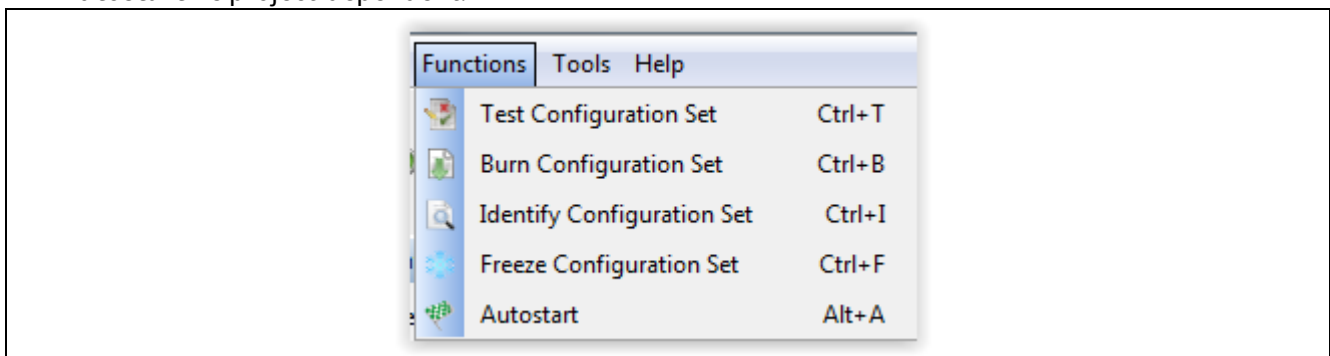

Figure 26 .dp Vision Functions Menu
- The Functions menu (see Figure 26) provides control to the user to push parameters into the .dp device. There are two mechanisms that are important. Firstly, to test any parameter that has been edited by the user, the “**Test Configuration Set**” option can be selected in order that parameters are written into RAM and checks can be made by the user by making board measurements. This is not permanent, but provides the user with a useful capability when developing parameters for their power topology. The second mechanism is provided by “**Burn Configuration Set**”, which permanently burns the parameters into OTP memory. Also within the Functions menu, there is the “**Identify Configuration Set**” option that allows the user to see if the loaded list of configuration parameters is the same as the list of parameters that are burned to the OTP memory of the chip (an appropriate message window will appear). The “**Freeze Configuration Set**” option allows freezing of the current set of parameters after which it is no longer possible to make changes to the parameters. The “**Autostart**” option will setup firmware to be started automatically after powered the chip. The availability of “**Freeze Configuration Set**” and “**Autostart**” is project-dependent.